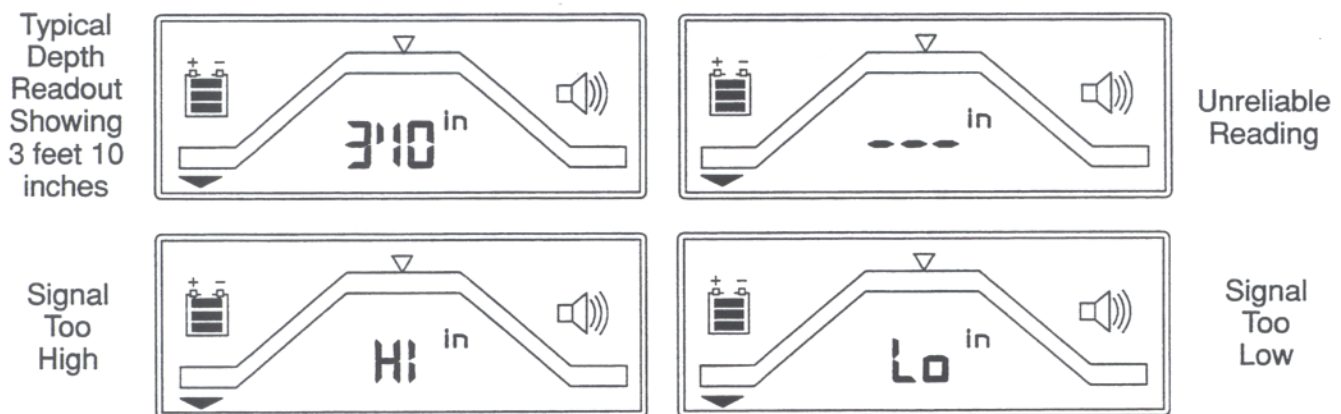

Fig. 2-5 Cable Depth Readouts
1.11 At any time during the tracing operation, press  to display the estimated depth to the buried cable. Place the Receiver Antenna on the ground directly above the cable, with the handle parallel to the path. Press  (depth). The numeric indicator reads the calculated depth in feet and inches (refer to Fig. 2-5). Press  (depth) again to continue.